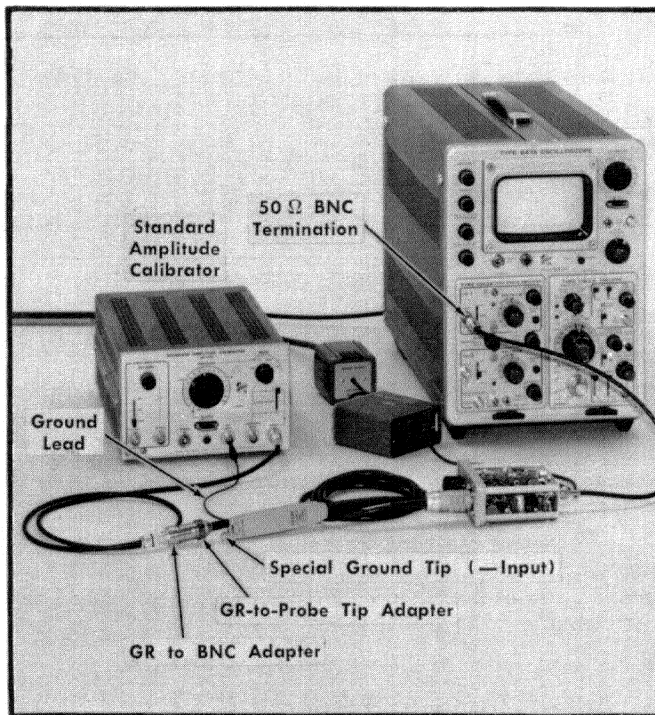

Fig. 6-25. Equipment setup for GAIN adjustment, step 5.
a. The preliminary control settings apply. The equipment setup appears in Fig. 6-25.
c. Remove a special ground tip from the Probe + Input tip. Connect the ground lead (item 21) from the Probe ground lug to the chassis of the Standard Amplitude Calibrator (item 4).